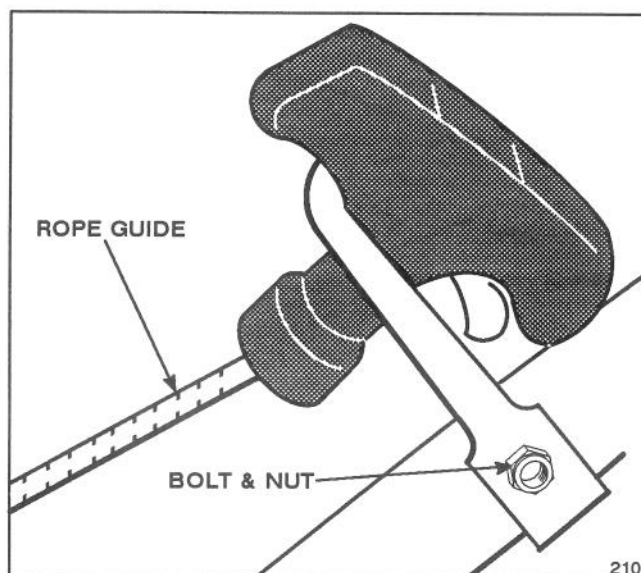
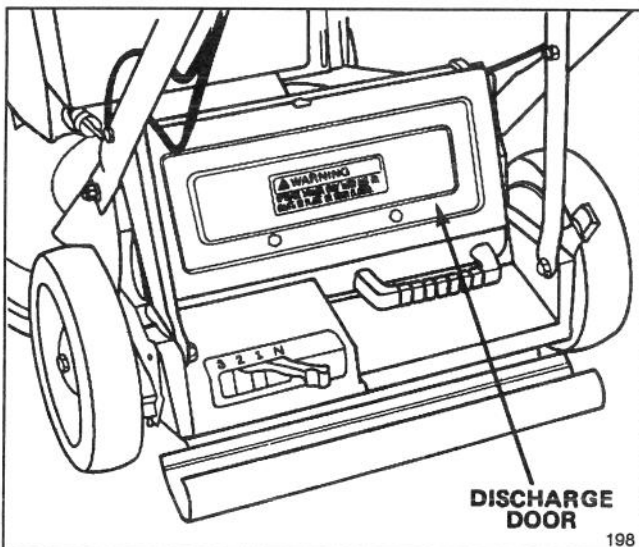

Figure 4
Figure 11
1. Secure rope guide to upper handle with bolt and locknut (Fig. 4).
2. Pull starter rope through opening in rope guide (Fig. 4). By squeezing control bar (Fig. 11) against handle, blade brake will release and allow rope to be pulled easily up through rope guide.
3. **MULCHING**—In summer when grass grows slower and is drier, mulch by removing the grass bag and closing the discharge door (Fig. 11).